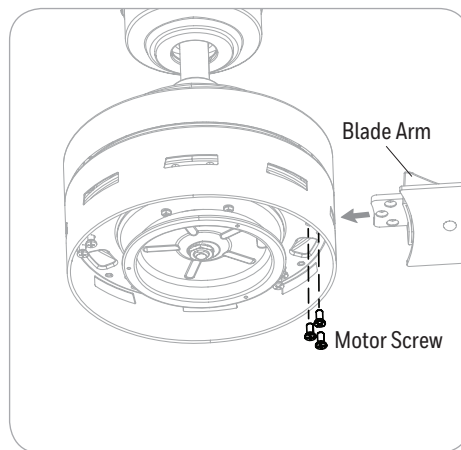

Figure 5.5
5. Insert blade arm (K) through slots in the side of the motor assembly. Align the holes of one blade arm with two motor screw holes in underside of the motor assembly. Secure with two motor screws. Repeat this step for the remaining blade arms (Figure 5.5).